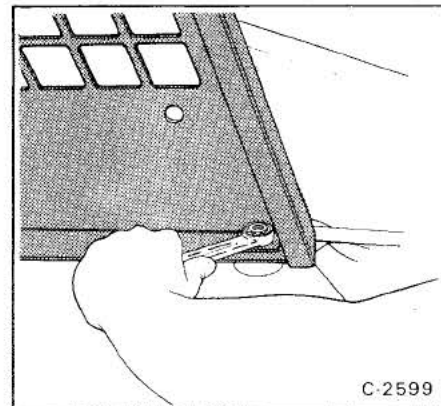
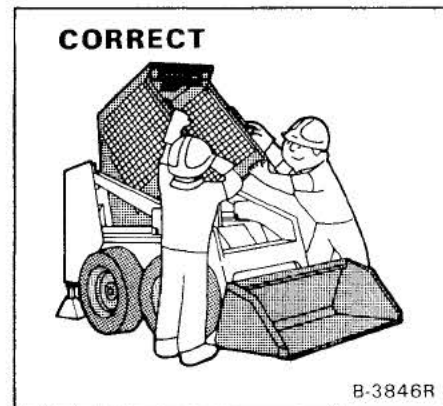

Fig. 36 Operator Guard Bolts
Fig. 37 Raising Operator Guard (Correct)
5. Remove the two (2) bolt assemblies (including washers) at the front corners of the operator guard (Fig. 36).
6. Two (2) persons are needed to lift the operator guard. Avoid slippery surfaces when lifting the operator guard.
7. Stand on the ground (one person on each side) and lift the operator guard using the grab handles and the bottom of the guard (Fig. 37 & 38).
4. Both persons must slowly lower the operator guard by holding the bottom of the operator guard and the grab handles (Fig. 37).
5. Install the two (2) bolt assemblies (including washers). Tighten the nuts to 40 -50 ft-lbs. (54 - 69 Nm) torque (Fig. 36).